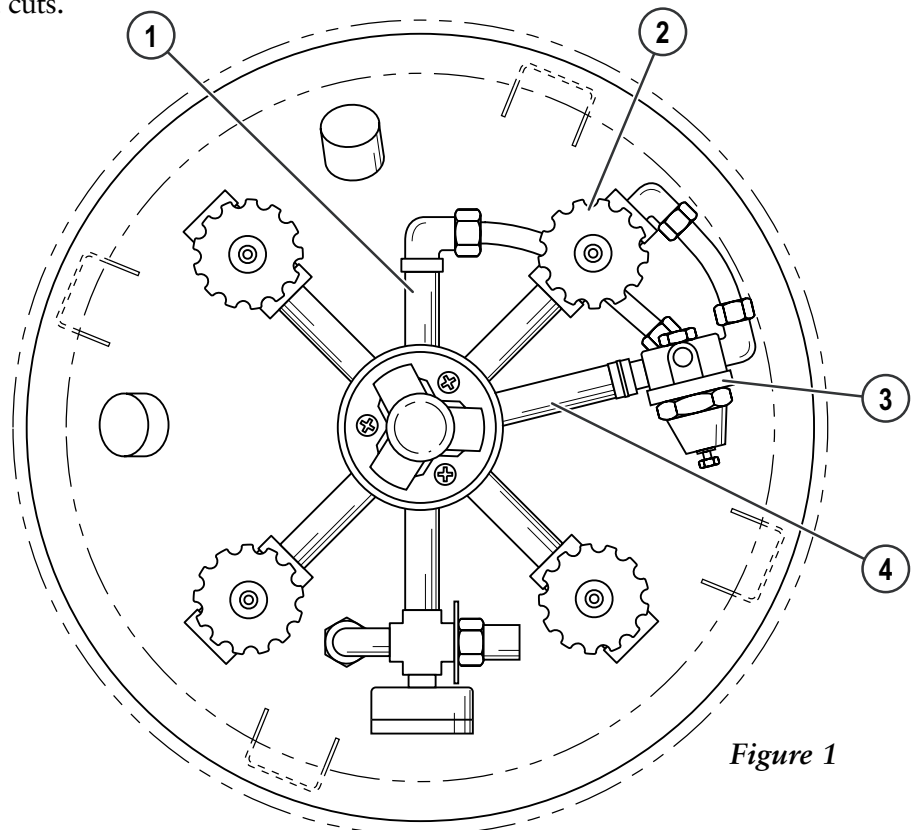

Figure 1
- 3 Using a hacksaw, cut through the middle of the copper tubing that connects the Pressure Building (PB) valve and PB regulator and the Economizer regulator and PB regulator nipple.
- 10 Thread the Combination (Combo) regulator onto the hex nipple and tighten it so that its orientation is as shown in Figure 1.
- Refer to Figure 1 and take note of the bends in the copper tubing. A 3/8" tubing bender and a tubing cutter are required in order to ensure proper installation. It is Very Important for the copper tubes to fit properly. This step should be done slowly and methodically.